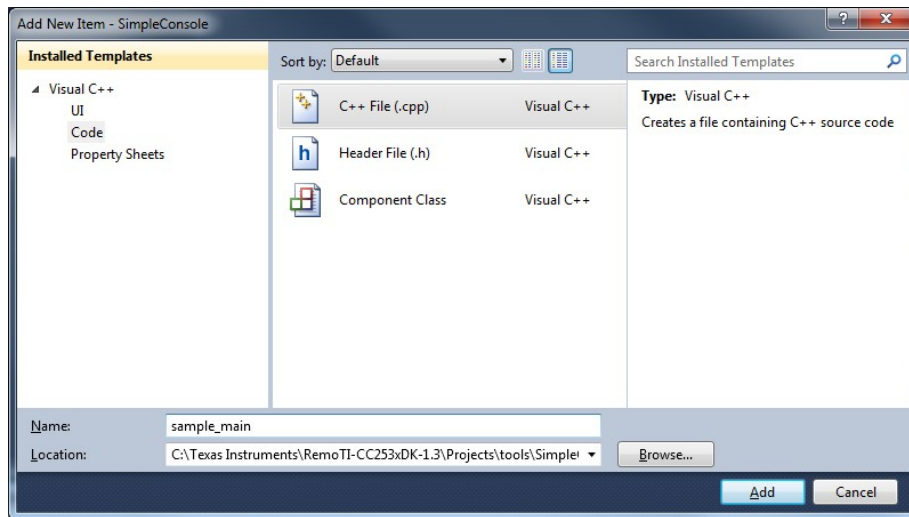

Figure 5. VC++ Express Add New Source File Wizard
1. Right click on the “Source Files” folder in the solution explorer and select “Add – New Item”. Select “code” and “C++ File (.cpp)” in the wizard, name the file sample_main and click the add button. See Figure 5.